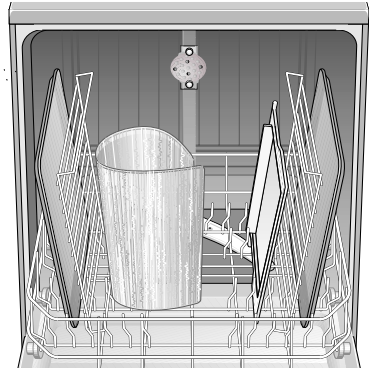

Figure 36
If you have extra tall items that cannot fit in the bottom rack without interfering with the upper spray arm or without hitting the top rack (max. height 22"), you can remove the upper rack. A special accessory, the Extra Tall Item Sprinkler, lets you run the dishwasher with top rack removed. See Figures 36 and 36.
- Place the extra tall items in the bottom rack for washing, as shown in Figure 36. To remove the Extra Tall Item Sprinkler, turn it counterclockwise and pull it out. Then replace the top rack.